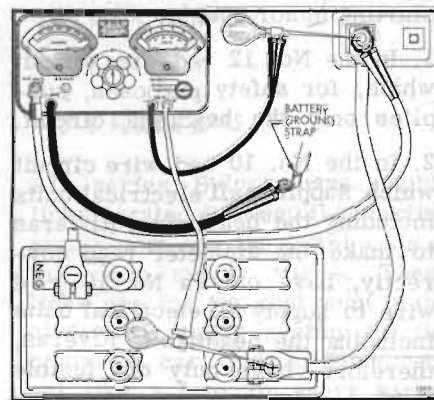

Figure 120-8—Battery Cable
2. Connect ammeter positive (+) lead to post on starting motor. Connect ammeter negative (-) lead to one side of rheostat and connect other side of rheostat to ground on engine, preferably at point where battery ground strap is attached. In the instrument shown in Figure 120-8 the ammeter and rheostat are connected in series inside the case.
3. Connect voltmeter negative (-) lead to post on starting motor. Use prod with voltmeter lead, if necessary, to insure direct contact with the terminal stud. Do not connect to the ammeter lead clip. Attach a prod to voltmeter position (+) lead and apply the prod to center of battery positive (+) post (Figure 120-8). Make sure that clips of voltmeter leads have clean metal contact with prods.